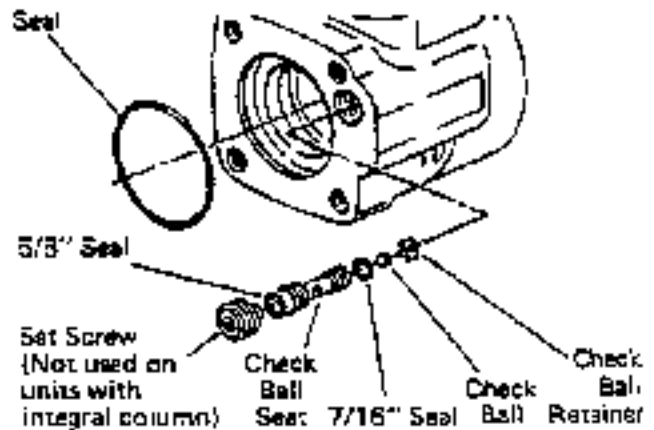

Figure 11
20. Remove seal from housing, see Fig. 11.
21. Remove set screw from housing, see Fig. 11.